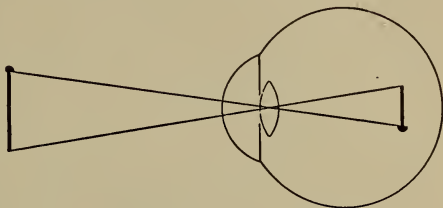

FIGURE 107.—A SHORT-SIGHTED EYE.
*Short-sightedness* is caused by one, or both, of two things. The eyeball is too long, or the crystalline lens is too thick. When the image falls in *front* of the retina, the person has to bring the object very near the eye to get the image to move back upon the retina. (Figure 107.)